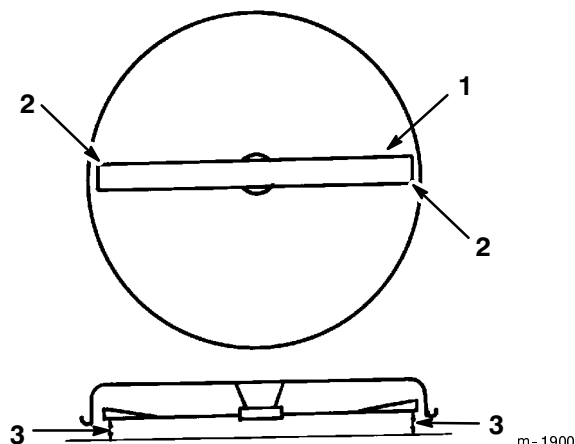

Figure 44
4. Carefully rotate blade(s) side to side (Fig. 44). Measure between the outside cutting edges and the flat surface (Fig. 44). If both measurements are not within 3/16" (5 mm), an adjustment is required; refer to steps 5 and 6.